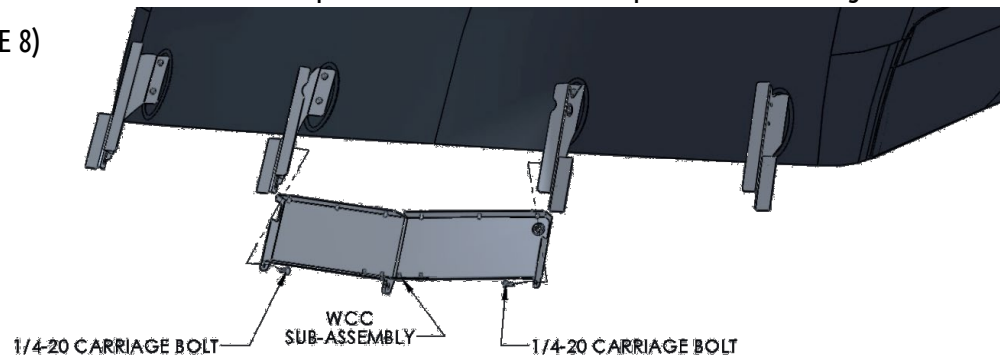

FIGURE 8 – Center Wire Cover, shown from front view
3. Install Center Wire Cover between inner brackets. Slide up from bottom and hold in place with a carriage bolt through the lower mounting holes. (FIGURE 8)